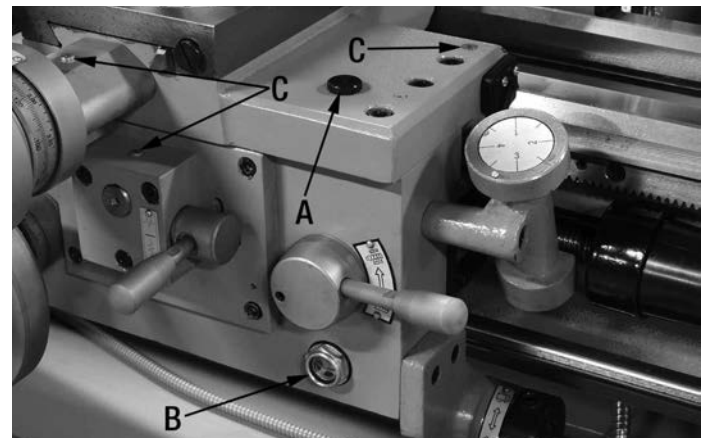

FIGURE 19
The carriage oil level should be checked regularly. Change carriage oil after the first 3 months and once every year after. The carriage oil drain plug is found under the carriage, drain oil. Reinstall drain plug. The carriage is filled with 200 ml of SAE-30 motor oil through the filling plug (A) Fig.19 on the top of the carriage. Fill oil until it reaches the 3/4 mark on the oil level indicator (B). Lubricate the ball oilers (C) with regular machine oil, most are shown in Fig.19.